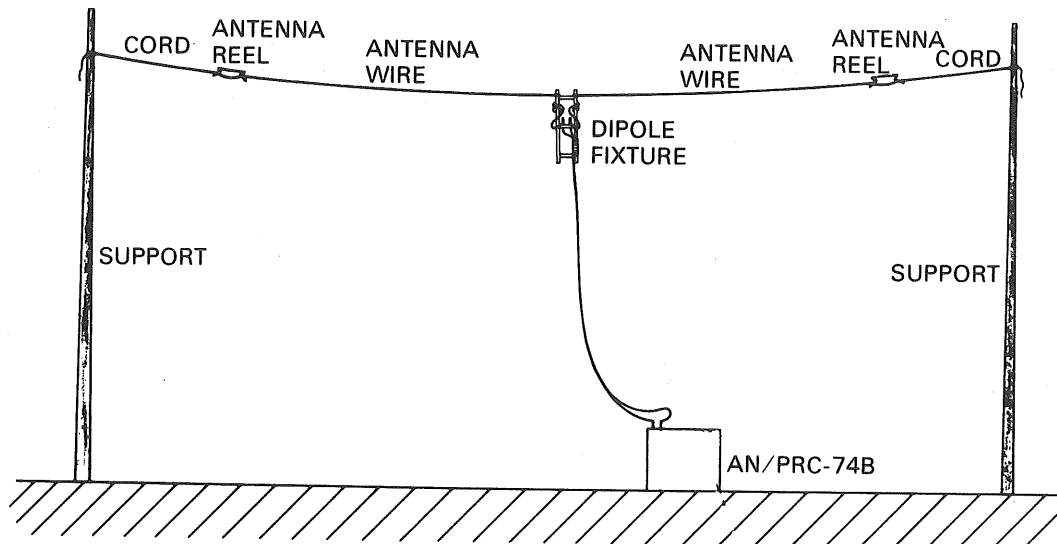

Figure 7. Doublet Antenna Instructions.
- d. Erect antenna as illustrated in figure 7.